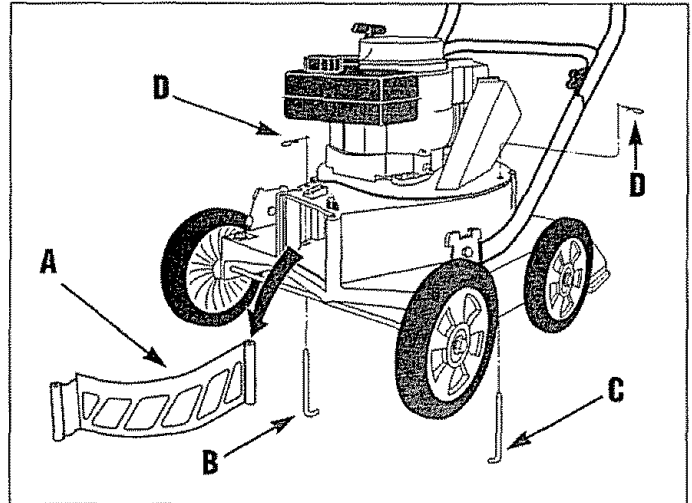

Figure 8: Shredder screen removal.
1. The screen (A) is held in place by two long rods (B and C) and hair pin clips (D). See Figure 8.
2. To remove the rear rod (B), remove the hair pin clip (D) and pull the rod out through the bottom of the deck.
3. Use sturdy supports to prop up the right side of the machine a few inches. Then, remove the hair pin clip and pull the rod (C) out through the bottom of the deck.
4. Pull screen (A) out of the discharge opening. Re-install the rods and hair pin clips on the screen for safe-keeping.